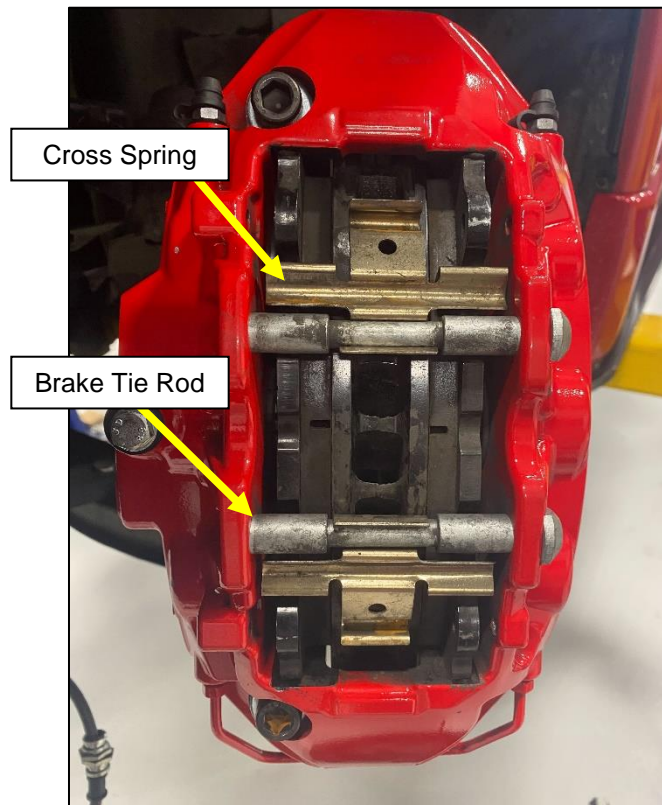

Figure 13
19. Locate (2) two Brake Tie Rods and (2) two Brake Cross Springs. Place the Tie Rods through the outside of the Caliper and clip the Cross Springs to the Tie Rods as shown below. *Figure 13.*